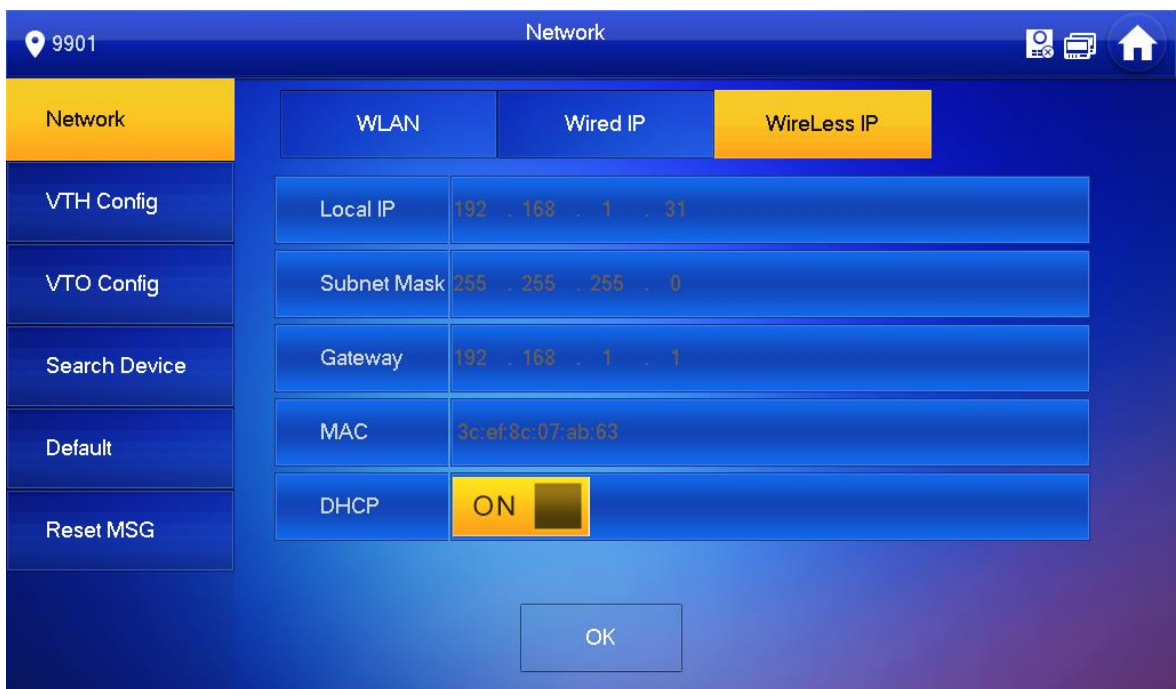

Figure 6-22
- ◇ At “WLAN” interface, select WIFI, click “Wireless IP” tab, press  OFF to enable DHCP function and obtain IP info automatically, as shown in Figure 6-22.